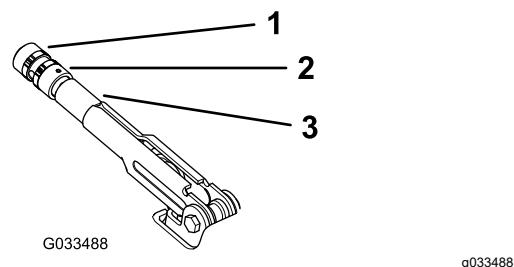

Figure 59
2. Loosen the set screw securing the knob to the parking-brake lever (Figure 59).
3. Rotate the knob (Figure 59) until a force of 20 to 22 kg (45 to 50 lb) is required to actuate the lever.
4. Tighten the set screw when finished (Figure 59).